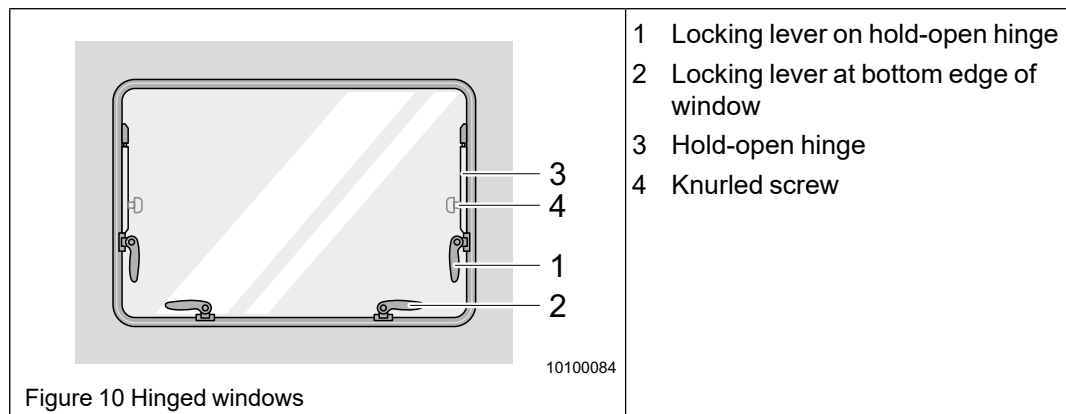

Figure 10 Hinged windows
- Open the two locking levers (Figure 10/1) on the hold-open hinges (Figure 10/3) first.
- Then open the locking levers (Figure 10/2) on the bottom edge of the window.
- Window with knurled screw: Tighten the knurled screw(s) Figure 10/4) clockwise when the hold-open hinge has reached the desired opening position.
- Window with knurled screw: Hold the window pane with one hand and loosen the knurled screw(s) Figure 10/4) anticlockwise until the window can be slightly moved.
- ▲ Always close both levers (Figure 10/2) at the bottom edge of the window in the "permanent ventilation" position, otherwise the window pane is bent. This could result in the formation of cracks in the acrylic glass window.